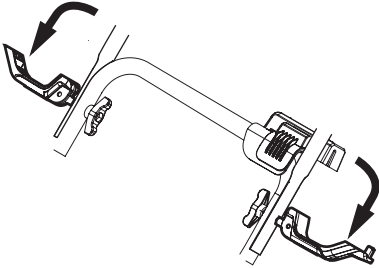

Figure 16
2. Flip the two handle levers down to the Unlocked position (Figure 16).